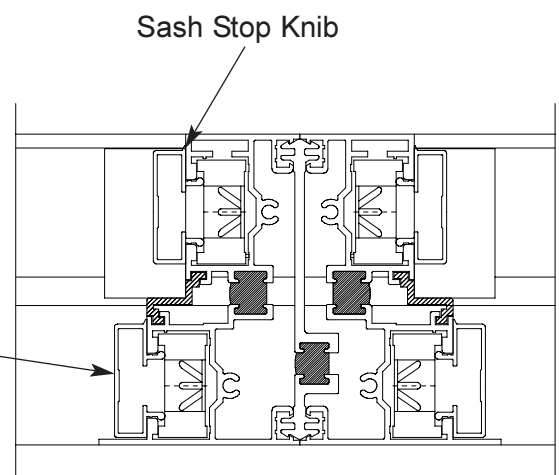

Fig.30. Sealing the sash stops
- Before fitting the end caps into the sash stops (C588), check handing is correct. The sash stops knib should always be directed to the inside of the window. See Fig 30.